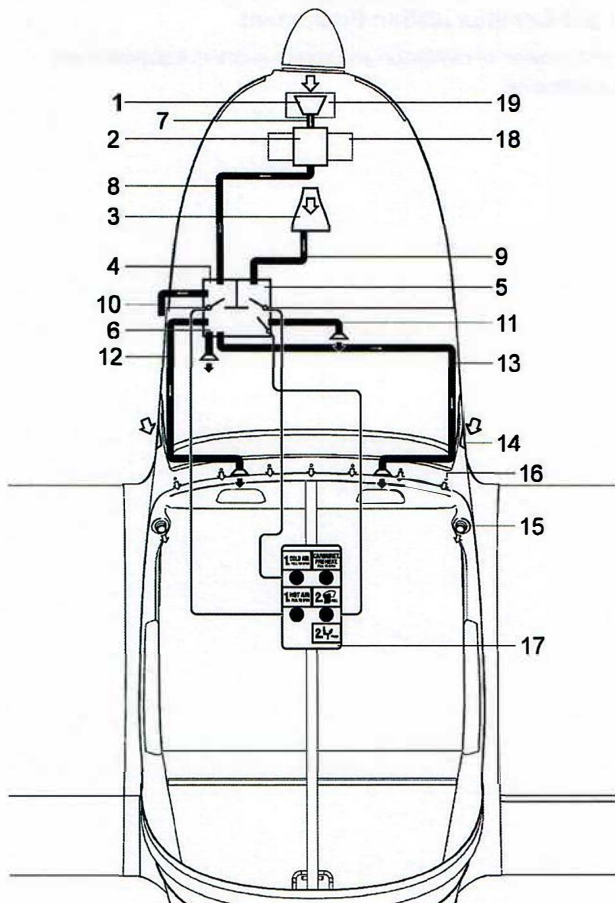

Figure 7-14 Scheme of ventilation and heating system
Cockpit ventilation is ensured by 2 eye-ball vents (14, Figure 7-14) located on the left and right of the tip-up canopy frame. Vents are connected to the NACA inlets (14) through tip-up canopy frame front flaps.
Legend to Figure 7-14